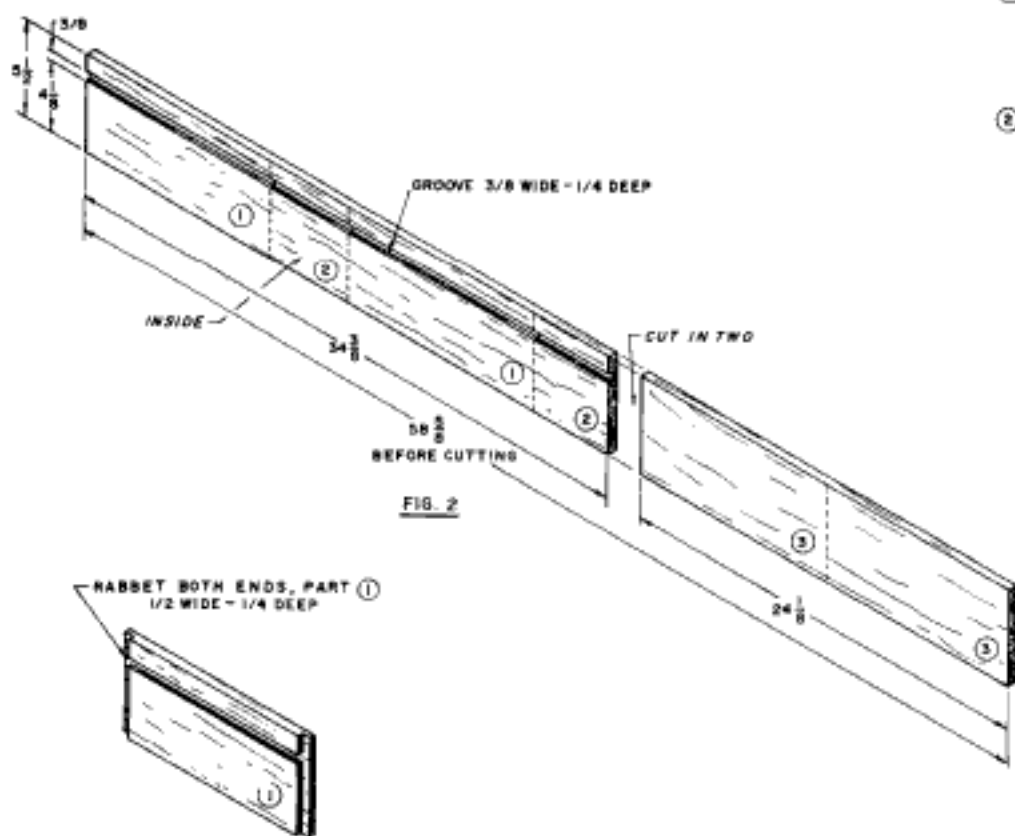

FIG. 2
A piece of wood ½ inch thick and 5½ inches wide x 60 inches long will be enough to make the top, bottom, and all four sides, as shown in figure 2. Cut it to form the parts, as described in the next step.
2. Cut the parts and assemble the box. Square up the edges of the board and cut off pieces for the top and bottom (part 3) of the box. Before cutting the remaining piece into four sides, rip a groove ⅜ inch wide and ¼ inch deep, as shown in figure 2, page 106. This is the first of two cuts that form the dust lip. Once you've cut the groove, saw the board into the front, back, and ends (parts 1 and 2).